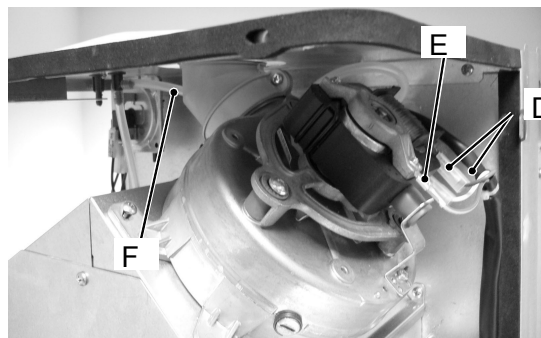

Figure 2
- 2) Disconnect the connectors D (Figure 2) and measure the electrical resistance of the motor that has to be about: 7.2 Ω .